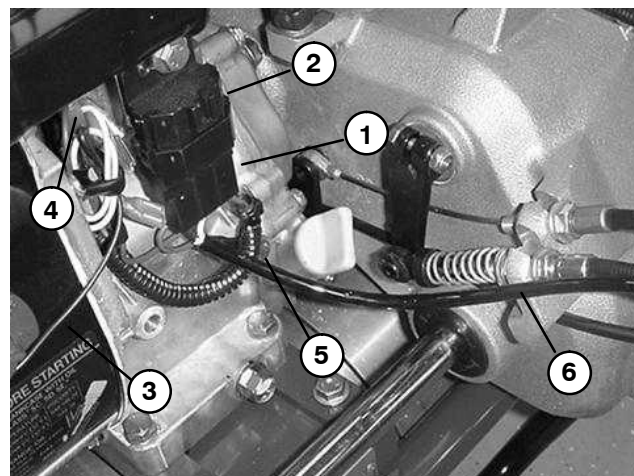

Figure 5
1. Check that there is a good ground between the interlock module (green wire) and the engine (Fig. 5). Check all other electrical connections and the interlock module for damage. Replace any damaged wiring or components.
4. Disconnect red wire (male connector) where it connects to the black wire leading to the ignition coil (Fig 5).